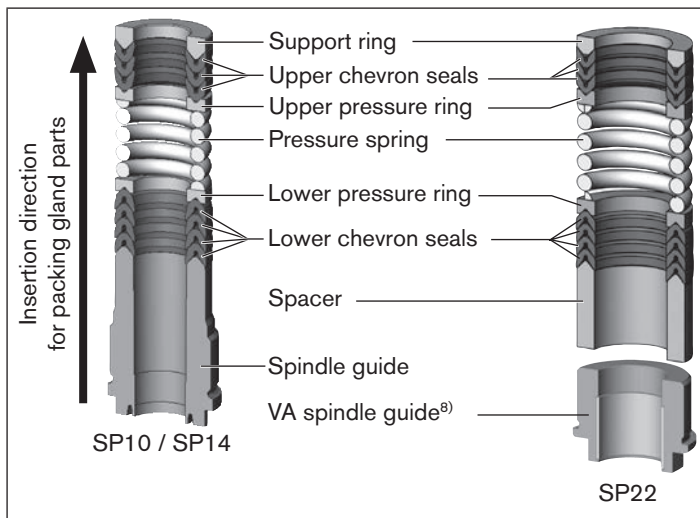

Fig. 29: Seal set for packing gland
- Connect the individual parts to the spindle in the specified direction and sequence (as illustrated in "Fig. 29: Seal set for packing gland").